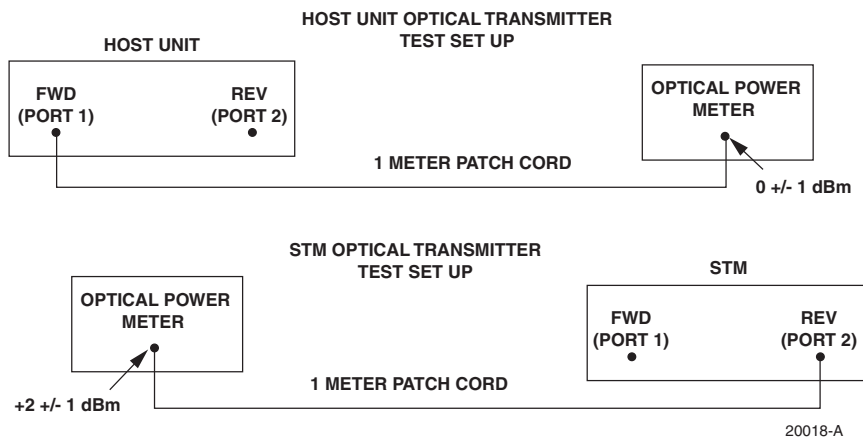

Figure 4-3. Host Unit and STM Optical Transmitter Test Set Up
12. Use a 1 meter patch cord to connect the optical power meter to the **transmitting** HU or STM as shown in Figure 4-3.